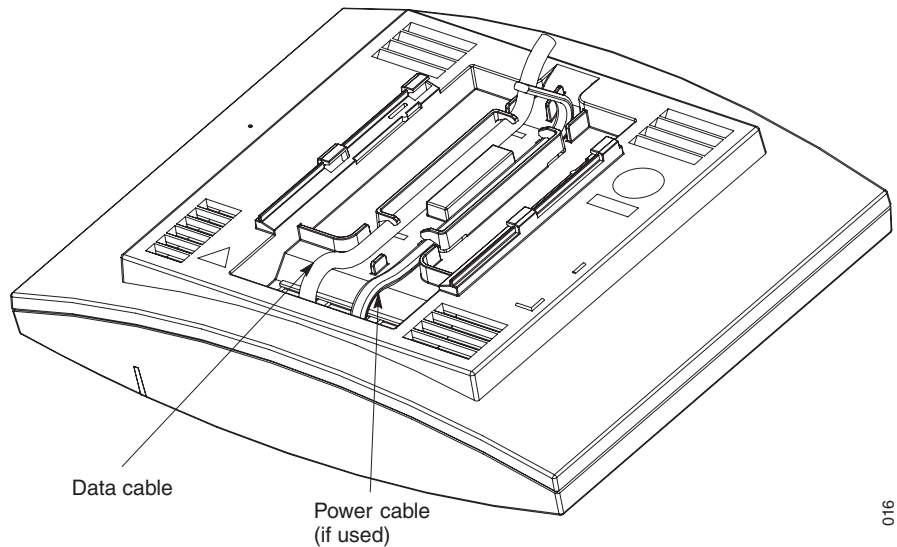

Figure 10. Cables entering centrally from above
- 1 If it is required that the cables enter the base station centrally from above, guide the cables through the recess in the middle of the base station as shown in figure 10 on page 23.